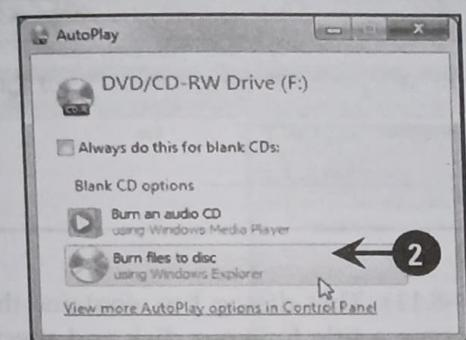
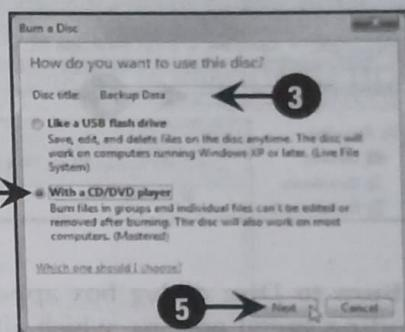

Fig.HD-8.6
Fig.HD-8.7
1. Insert a blank CD/DVD in a CD/DVD drive of the computer. In our case, we have inserted a CD in the DVD drive. The AutoPlay window appears with different options (Fig.HD-8.6).
2. Select **Burn files to disc** in the AutoPlay window (Fig.HD-8.6). The Burn a Disc dialog box appears (Fig.HD-8.7).
3. Type a name in the text box beside the **Disc title** option in the Burn a Disc dialog box. In our case, we have typed **Backup data** (Fig.HD-8.7).
4. Select a radio button to define the file format of the CD in the Burn a Disc dialog box. In our case, we have selected the **With a CD/DVD player** radio button (Fig.HD-8.7).
5. Click the **Next** button in the Burn a Disc dialog box, as shown in Fig.HD-8.7: